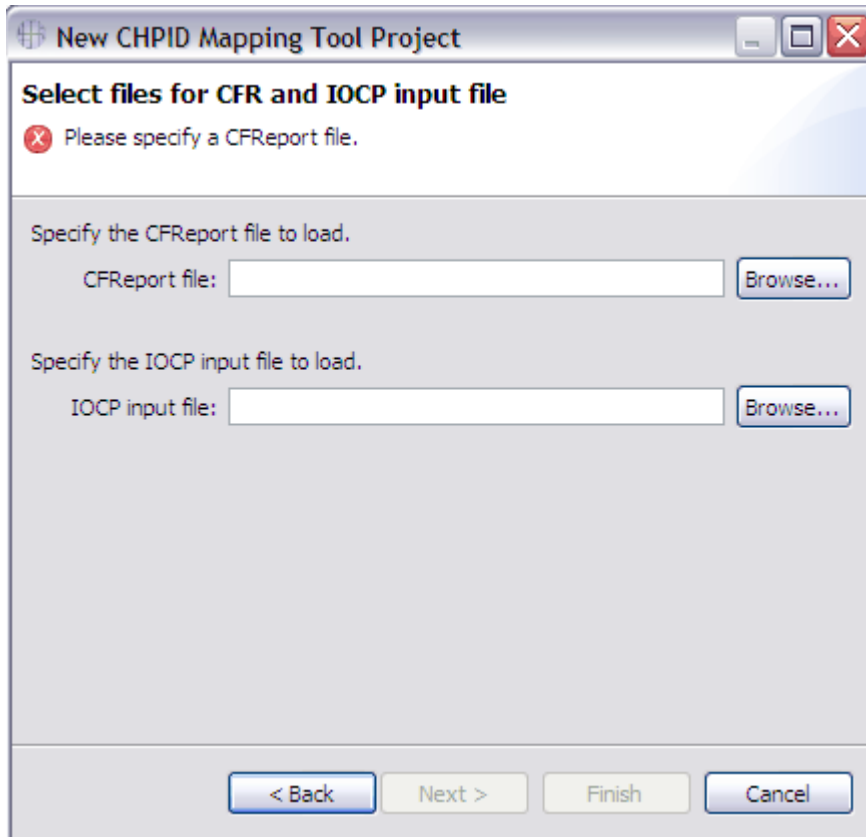

Figure 8. New CHPID Mapping Tool Project window
The New CHPID Mapping Tool Project window displays fields where you specify the source CFReport and IOCP input files. Figure 8 on page 11 shows this.
**Note:** The Hardware Configuration Manager (HCM) can use the CHPID Mapping Tool to create or update a project. (It can also use the tool to update an IOCP file.) When HCM opens the CHPID Mapping Tool, you specify whether to create a new project or use an existing project. If you are creating a new project, the tool prompts you for the CFReport file; see Figure 8 on page 11. The tool fills in the **IOCP file** field.